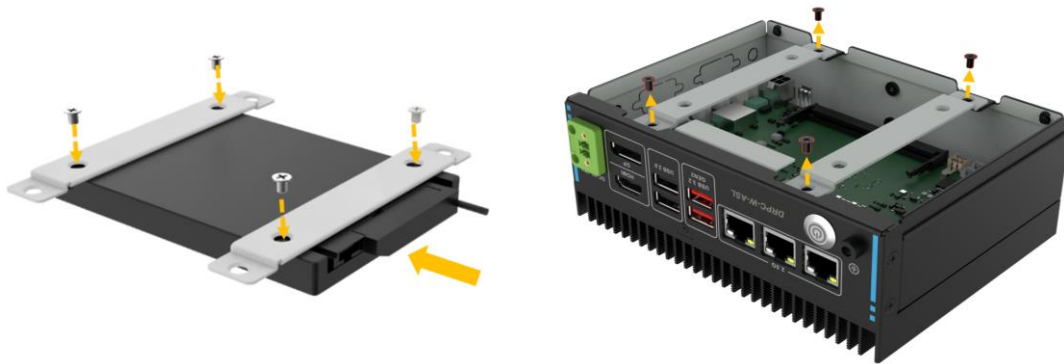

Figure 3-3: HDD Installation
Step 2: Connect the hard drive to the SATA connector. Reinstall the HDD bracket into the chassis and then fasten it with the four bracket screws (**Figure 3-3**).